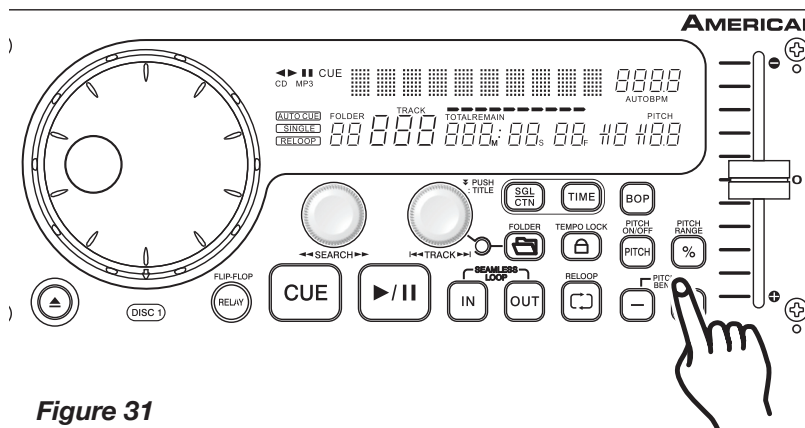

Figure 31
The (+) *PITCH BEND BUTTON* (14) will increase track playback speed and the (-) *PITCH BEND BUTTON* (14) will decrease track playback speed. The extent to which the speed changes is proportionate to the amount of time the button is pressed. For example, if the (+) *PITCH BEND BUTTON* (14) is held down continuously as in figure 31, the disc speed will increase and will continue to increase until it reaches a maximum of 16% or (100% for CD) speed gain. When you release the (+) *PITCH BEND BUTTON* (14) the disc speed will automatically return to its previous set speed.